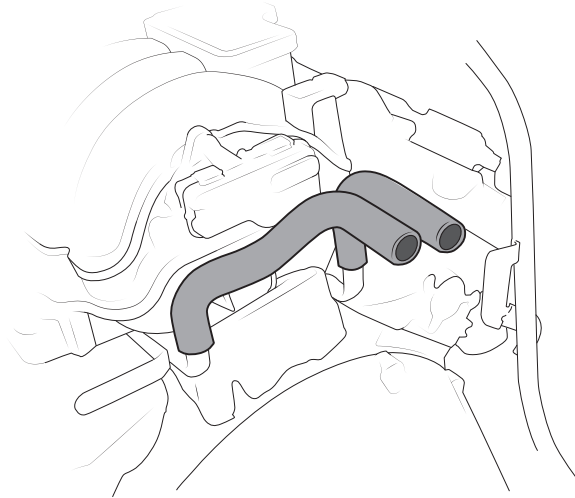

Figure 19
15. Locate the supplied 3.8L heater core hoses and modify and install as shown (fig 19).